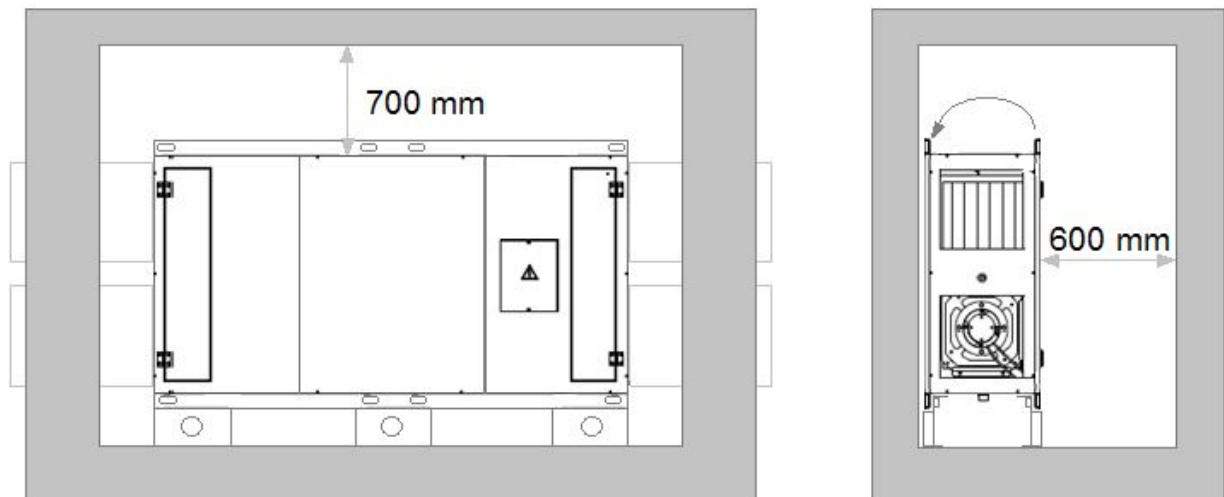
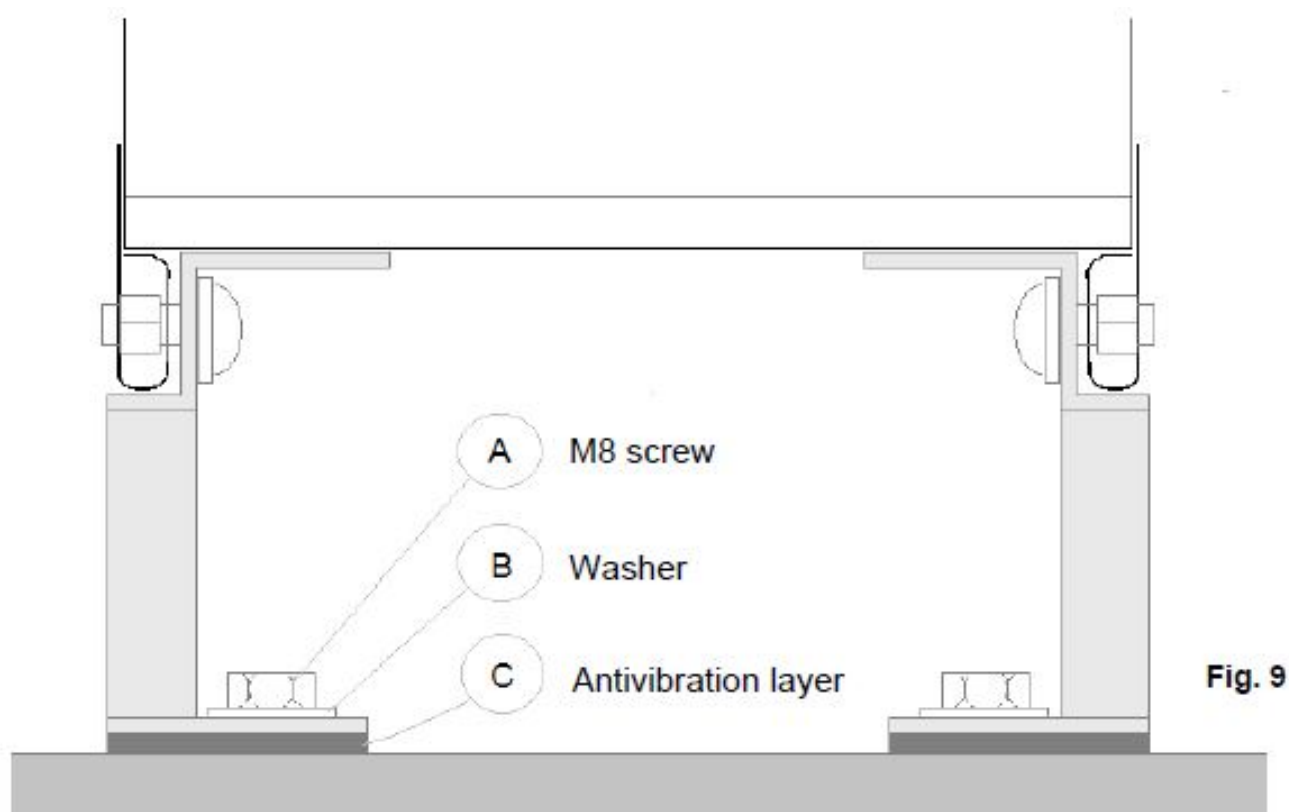

Fig. 7
Fig. 9
- For vertical version unit, fix the supporting feet to the floor (or to the supporting framework), by interposing an antivibration layer (fig. 9); if adjacent to a vertical wall, it is also suggested to block the upper bracket on it, once moved on the opposite side to that of access doors (see previous fig. 7).
- For the vertical version section, fix the supporting feet to the floor (or to the supporting framework), by interposing an antivibration layer (fig. 9); if adjacent to a vertical wall, it is also suggested to block the upper bracket on it.